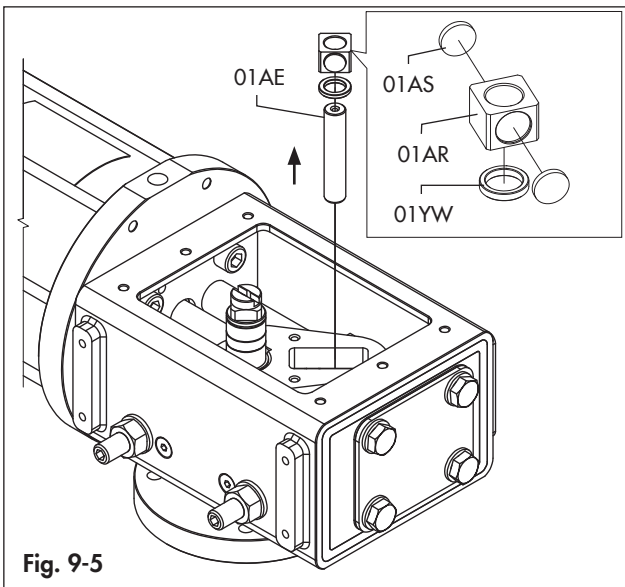

Fig. 9-5
- Remove the yoke pin (01AE) by means of a screw or a proper tool (Fig. 9-5).
- Remove the upper sliding block (01AR) from the yoke, the sliding plates (01AS) and the bottom thrust bearing (01YW) (Fig. 9-5).